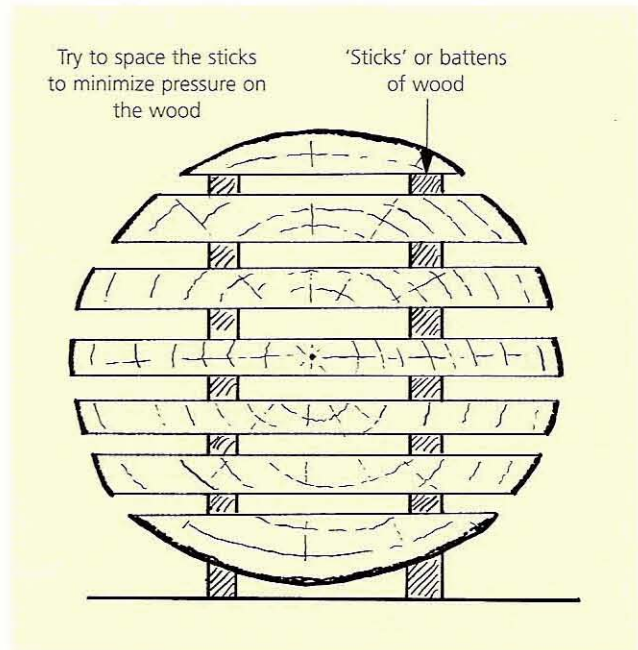

Fig 6.24 A whole log stored in stick; the same principles apply to storing wood, as well as to drying it
- Store the wood off the ground **in stick**, with spacing battens to allow good air circulation (Fig 6.24). Keep it protected from rain, wind, frost, sunlight and dry atmospheres (such as